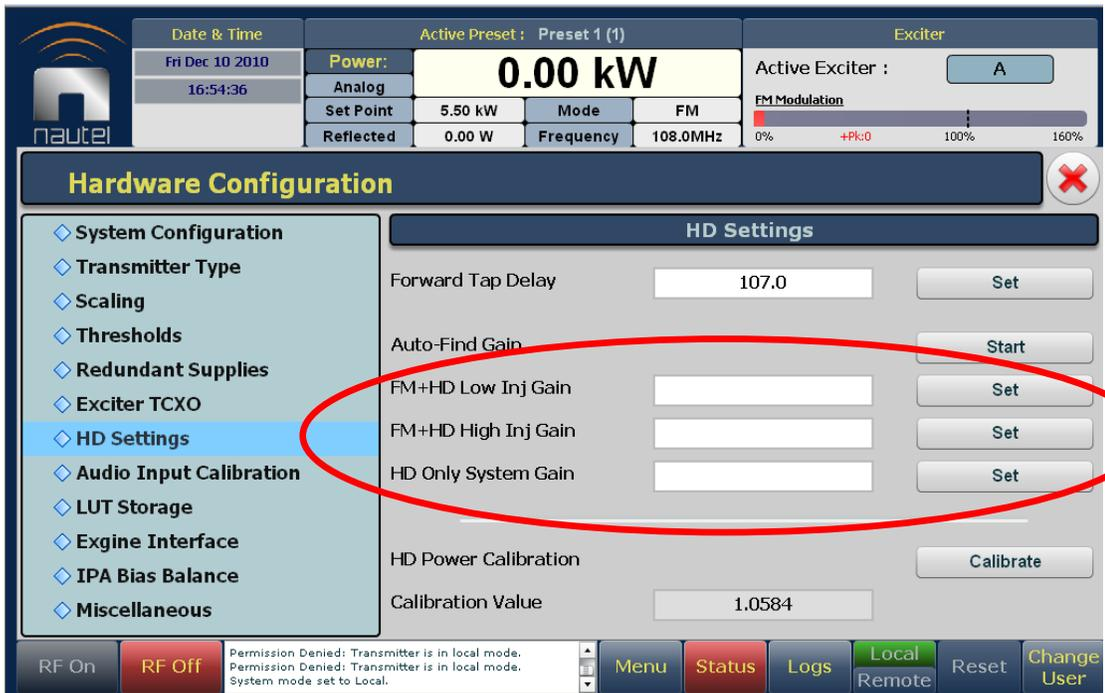

Figure 2: HD Settings Screen
- (b) Go to the **AUI Menu / Hardware Configuration / HD Settings** screen (see Figure 2).